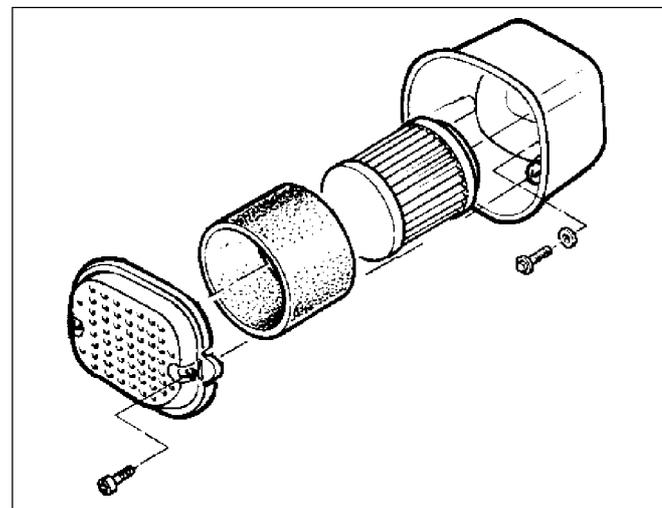
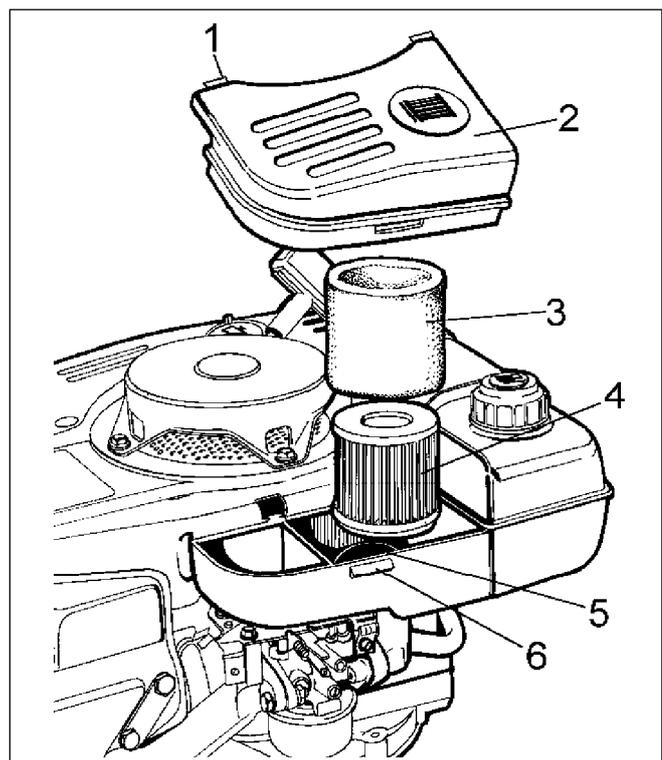

Fig. 12
Fig. 13A
This air cleaner consists of a paper type element with felt pad pre-cleaner around it. Fitting of air cleaner for horizontal crankshaft engines shown in Fig 12, for vertical crankshaft it is shown in Fig 13A and 13B.
- Loosen the two cover screws completely and remove cover from base (Fig 12)
- Replace the cover and tighten the two screws securely. (Fig 12).
## VERTICAL CRANKSHAFT ENGINES DUAL ROUND SHAPED AIR CLEANER (Fig 13A)